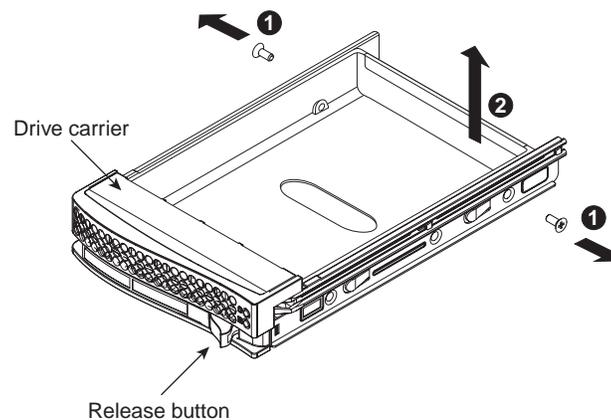

Figure 4-2 Removing the Dummy Drive from the Carrier
1. Remove the two screws securing the dummy drive to the drive carrier (see Figure 4-2).
2. Lift the dummy drive out of the drive carrier (see Figure 4-2).